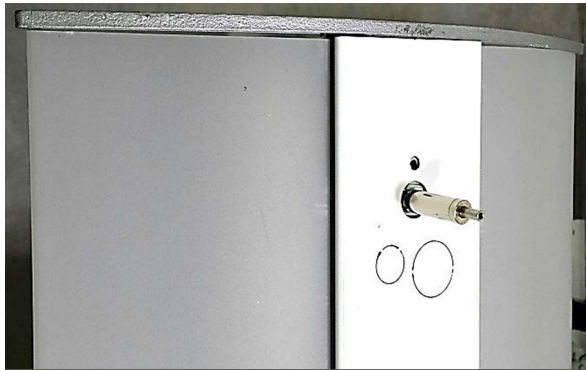

Figure 1
1. Screw in cable hangers (2 per fixture) as shown below. (see Figure 1)